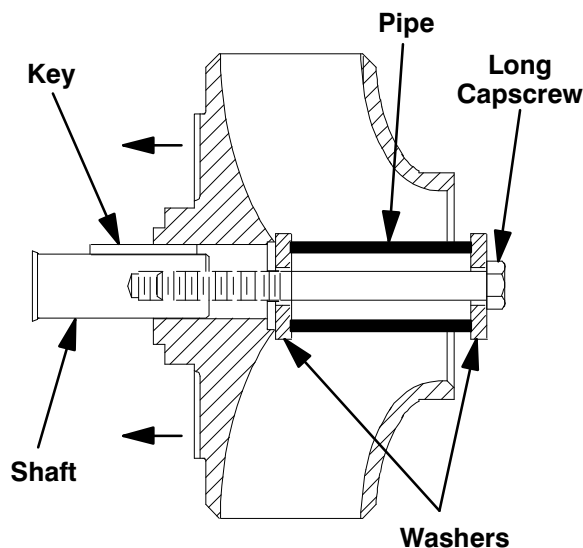

Figure 9. Installing Impeller
Install the same thickness of impeller adjusting shims (57) as previously removed. Install the shaft key (46) and position the impeller on the shaft. See Figure 9, and use a section of pipe, washers and a long, 5/8–11 UNC capscrew to press the impeller onto the shaft until fully seated (**do not use the impeller lock screw**). Make sure the seal spring seats squarely over the step on the back side of the impeller.